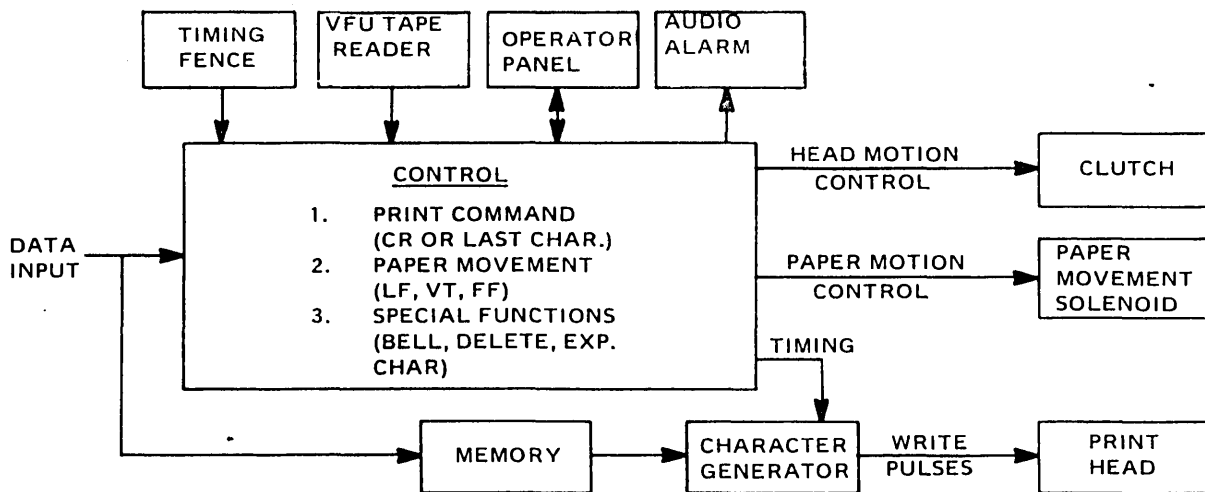

Figure 1-2 BASIC BLOCK DIAGRAM
1.2 LOGIC FLOW DIAGRAM (FIGURE 1-2)